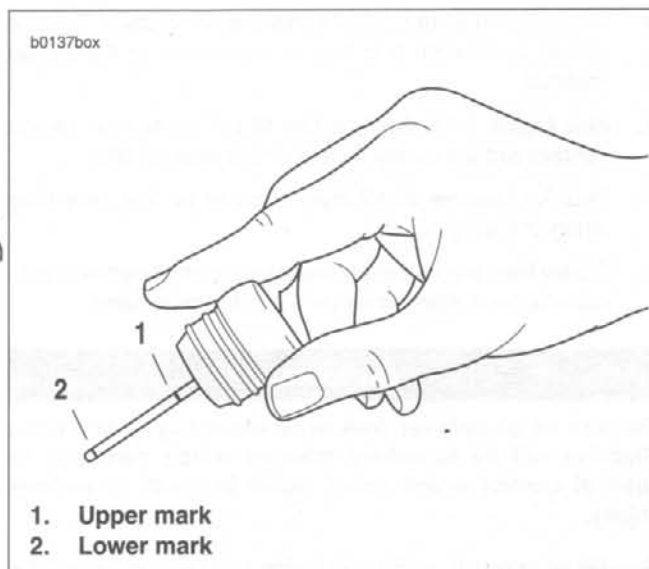

Figure 1-13. Checking Oil Tank Level
2. See Figure 1-13. Remove filler cap/dipstick from oil tank. Wipe dipstick clean.